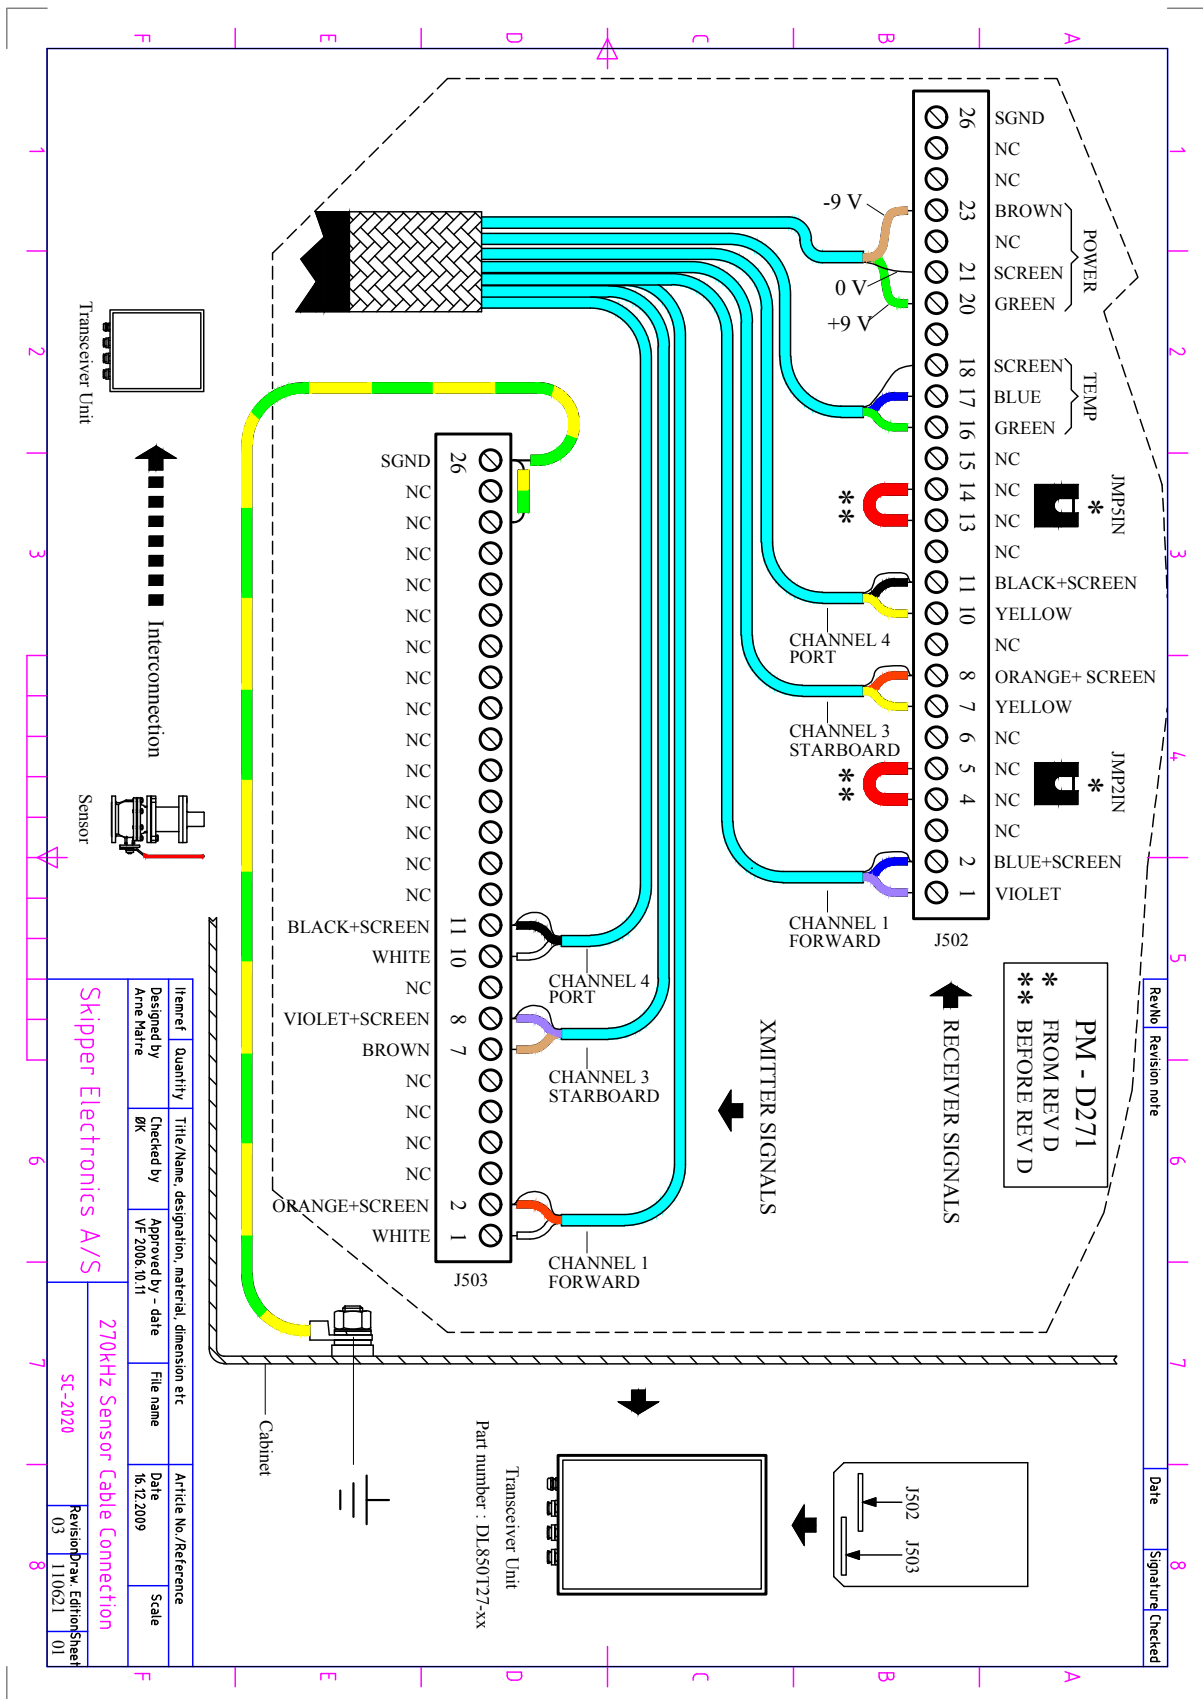

Fig. 10.5. 270 kHz Sensor Cable Connection
- Fig. 10.5. Interconnection diagram between sensor and the transceiver unit. See “270 kHz Sensor Cable Connection” on page 72.